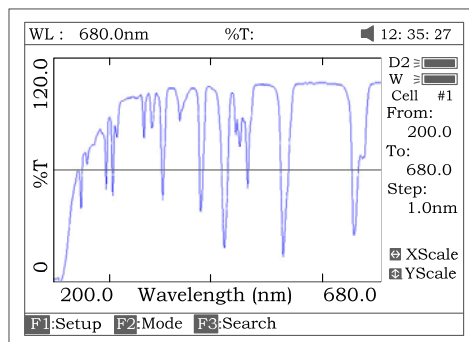

Fig 14
1. The key **[ENTER]** be pressed, the file selected will be loaded and displays on the screen. Fig 14.
✧ Press the key [**SAVE**] in Fig 14 to save curve.